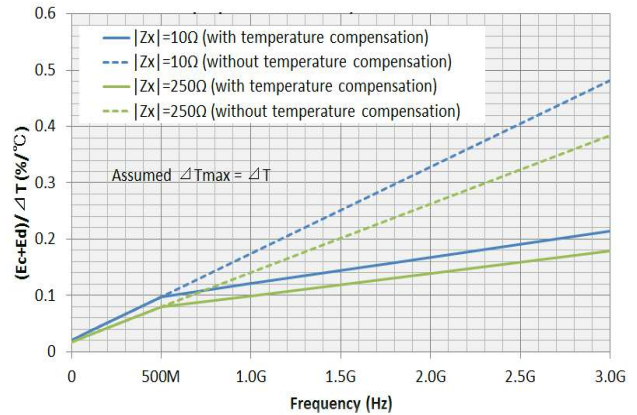

Figure 35. Typical frequency characteristics of temperature coefficient,  $(E_c+E_d)/\Delta T$ , when  $|Z_x| = 10 \Omega$  and  $250 \Omega^2$ .
1. See graphs in Figure 35 for the calculated values of  $(E_c+E_d)$  exclusive of the hysteresis errors  $E_{ah}, Z_{sh}$  and  $Y_{oh}$ , when measured impedance is 10 Ω and 250 Ω.